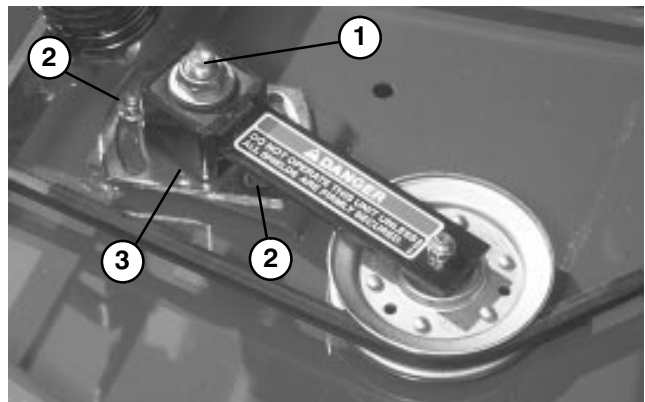

Figure 36
ADJUSTING IDLER PULLEY (Fig. 36)
3. Loosen two nuts securing idler plate in place. Using a socket and torque wrench, tighten the idler adjusting nut to 35-40 ft-lb. (Fig. 36).